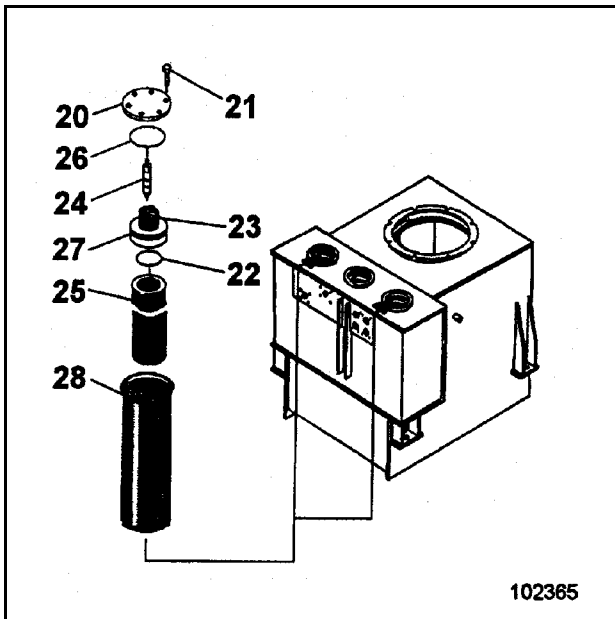

Fig. 5
- when the "Hydraulic oil filter" warning lamp (satellite II) lights up when the hydraulic oil is at operating temperature. The filter elements (25, Fig. 5) are then heavily contaminated. (The warning can be disregarded if the lamp lights up only shortly during starting of the engine);
- Remove cover (20) and retaining disk (23) as described under "Topping up with hydraulic oil".
- Clean the magnetic rod (24).